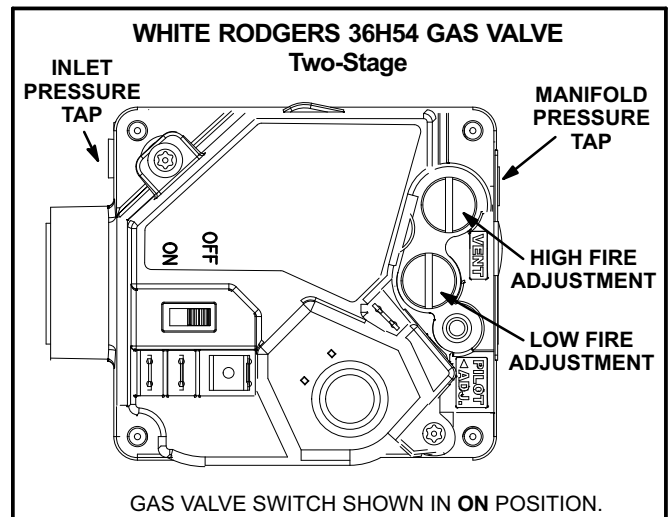
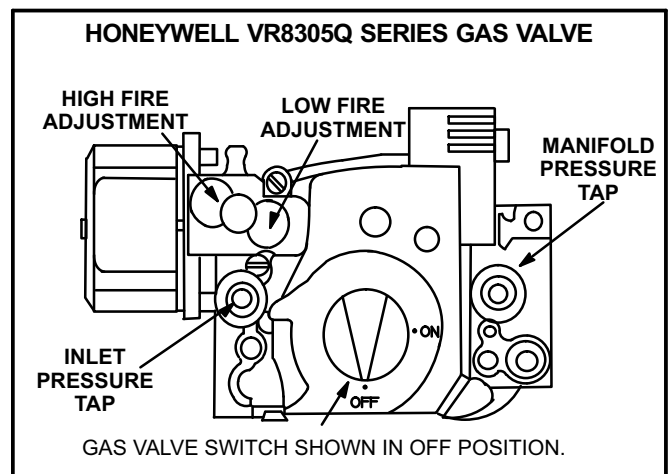

FIGURE 17
FIGURE 18
#### Gas Valve Operation for Honeywell VR8305Q or White Rodgers 36H54 (figure 17 or 18)
- 5- Turn gas valve switch to **OFF**. See figure 17. On Honeywell VR8305Q gas valves, turn the knob on the gas valve clockwise  to “**OFF**”. Do not force. See figure 18.
- 6- Wait five (5) minutes to clear out any gas. If you then smell gas, **STOP!** Immediately call your gas supplier from a neighbor's phone. Follow the gas supplier's instructions. If you do not smell gas, go to the next step.
- 7- Turn gas valve switch to **ON**. See figure 17. On Honeywell VR8305Q gas valves, turn the knob on the gas valve counterclockwise  to “**ON**”. Do not force. See figure 18.